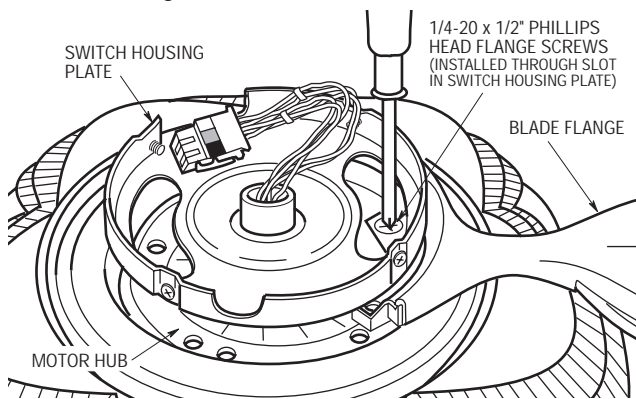

Figure 6
- 9. Loosely attach one blade assembly to the motor hub using two 1/4-20 x 1/2 inch Phillips oval head flange screws (Figure 6). Make sure the screws are NOT tightened. Repeat this procedure for the other four blade assemblies.